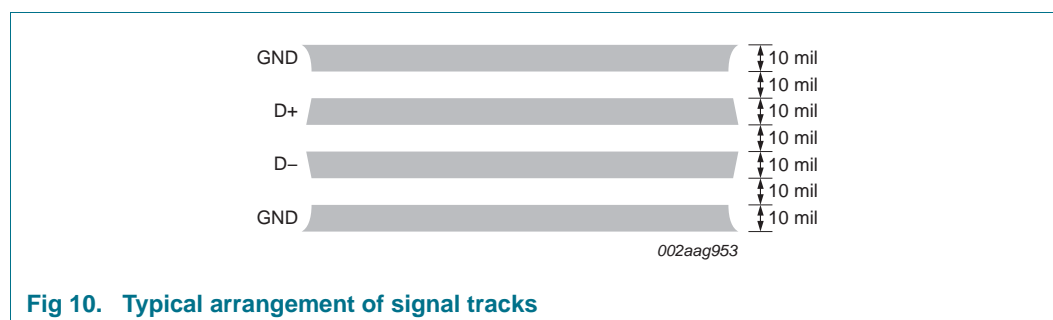

Fig 10. Typical arrangement of signal tracks
3. Use wide tracks to minimize inductance and reduce noise pickup. 10 mil track minimum width and spacing is recommended (see Figure 10).